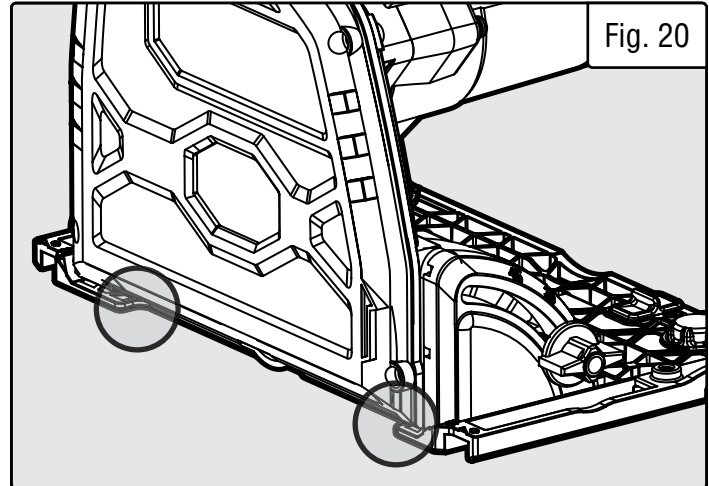

Fig. 20
3. Set the blade to the correct blade depth setting and position it where you would like your cut to occur. You will find two notches along the blade cover. The notches indicate the maximum points that the saw’s blade will reach (Fig. 20).